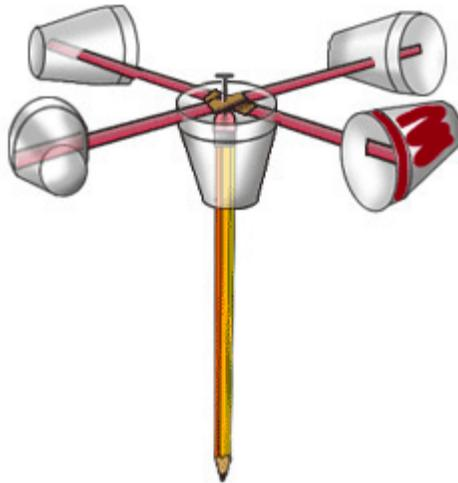

Figure 1. When your anemometer is completely assembled, it should look like the one in this picture.
9. Now your anemometer is ready for use! It should look like Figure 1: